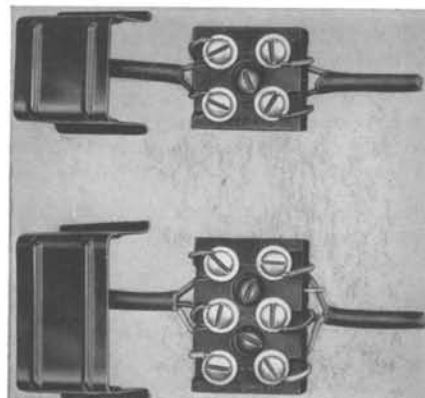

FIG. 6—INSTALLATION OF 11- AND 12-TYPE CONNECTING BLOCKS
- For 11-type connecting block, mounted with arrows horizontal, connect green conductor to top terminal and red conductor to bottom terminal (see Fig. 6).
- For 12-type connecting block, mounted with arrows horizontal, connect green conductor, red conductor, and yellow conductor to top terminal, middle terminal, and bottom terminal, respectively (see Fig. 6).
6.02 The 11- and 12-type connecting blocks (shown in Fig. 6) are installed as follows: